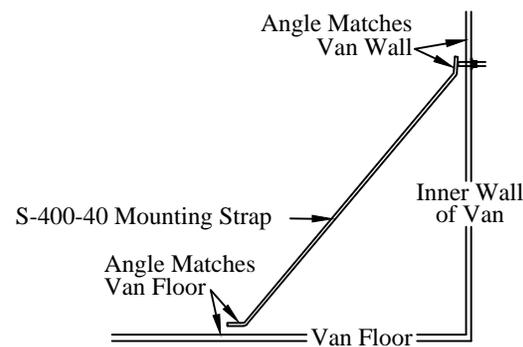

Figure 8: S-400-40 mounting strap position.
13. Place an S-400-40 mounting strap on each ear bolt (Figure 8).